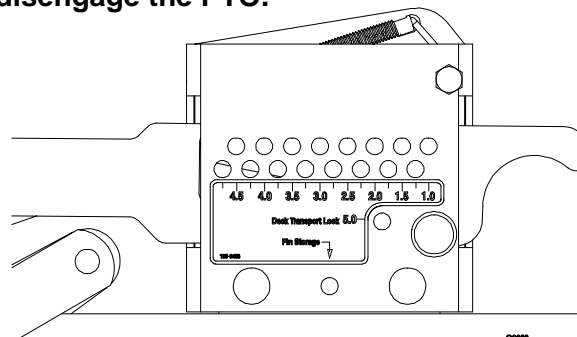

FIGURE 10
- c) Raise the deck lever to the transport position (also the 5” (12.7 cm) cutting height position). See Figure 10.